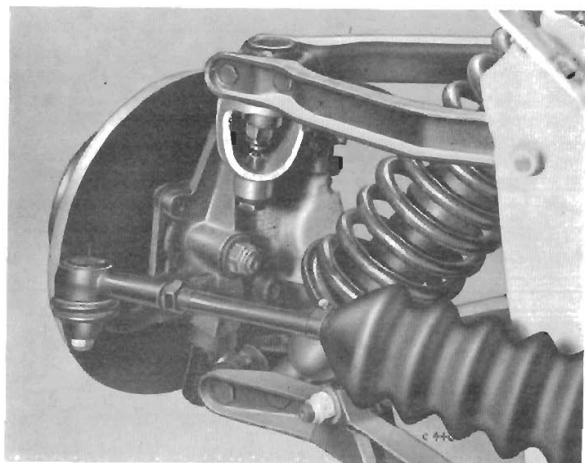

Fig. 31. Using tool No. S.166A to release top ball joint from vertical link
5. Remove the nyloc nut (22) and washer (21) and, using an extractor, separate the vertical link (18) from the tapered pin of the ball joint (16) as shown on Fig. 31.